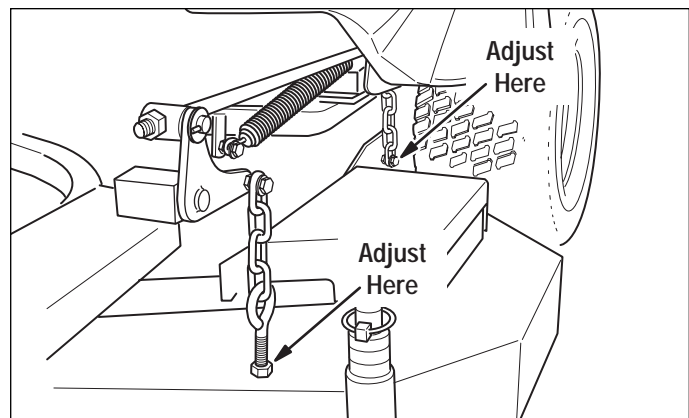

Figure 42. Deck Level Adjustment
4. Adjust the front eyebolts until the chains are tight and the deck is still resting on the 2 x 4's. Tighten jam nuts. See Figure 42.
5. Loosen the nuts and allow the rear of the deck to rest on the 2 x 4's and 1/4" spacers. Slide the chains in the slots until the chains are tight and tighten the nuts. See Figure 42.